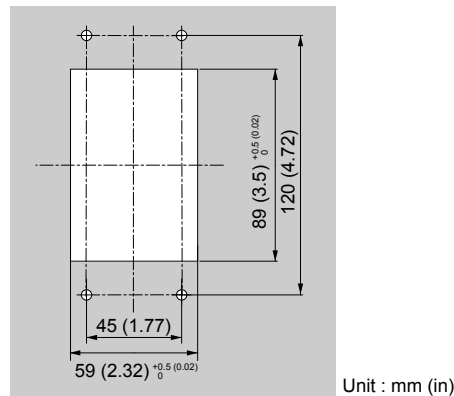

Figure 2.10 Panel Cut-Out Dimensions (Internal/Flush-Mount Installation)
1. Cut an opening in the enclosure panel for the HOA keypad as shown in **Figure 2.10**.